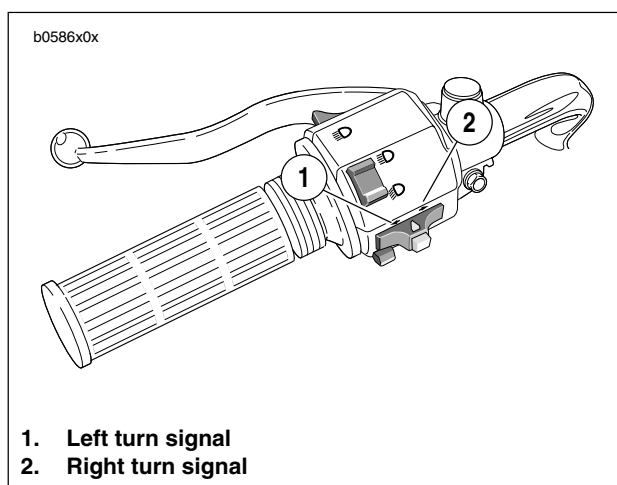

Figure 7-55. Turn Signal Controls
- b. See Figure 7-55. Activate left turn signals using switch on left handlebar. Front and rear left turn signals must flash.